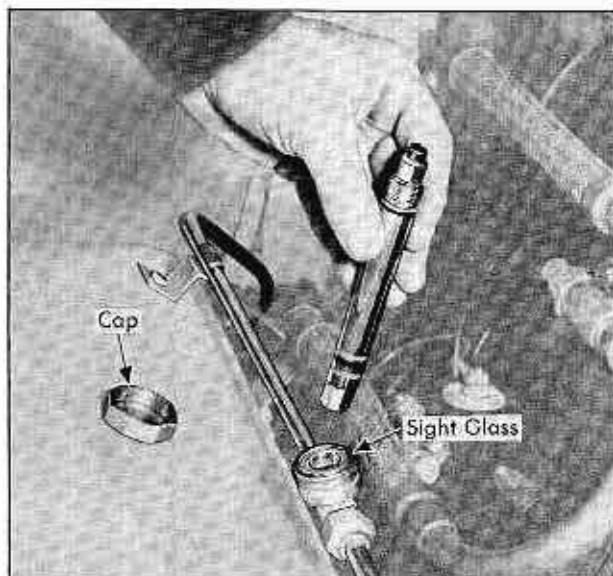

Fig. 16A-9 Checking Sight Glass
7. Operate the engine at 1500 RPM with compressor clutch engaged to observe the high and low pressure gages as well as sight glass and general performance of the system. Fig. 16A-9.